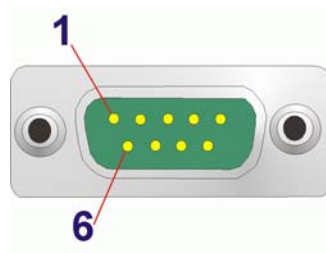

Figure 4-27: COM1 Pinout Locations
- CN Pinouts:** See Table 4-28 and Figure 4-27